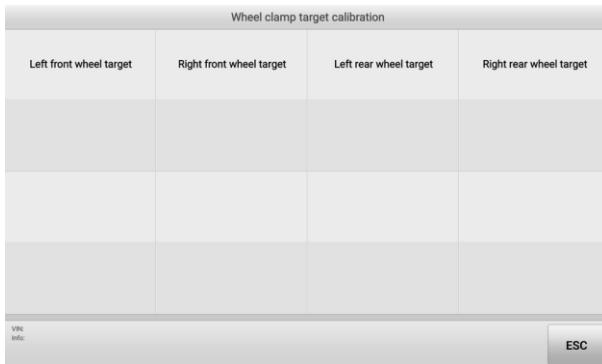

Figure 10-24 Select Target for Calibration
5. Select wheel clamp (rim clamp) needed for calibration. Here we select the left front wheel clamp (rim clamp) installed with the target as an example. See Figure 10-24 Select Target for Calibration.